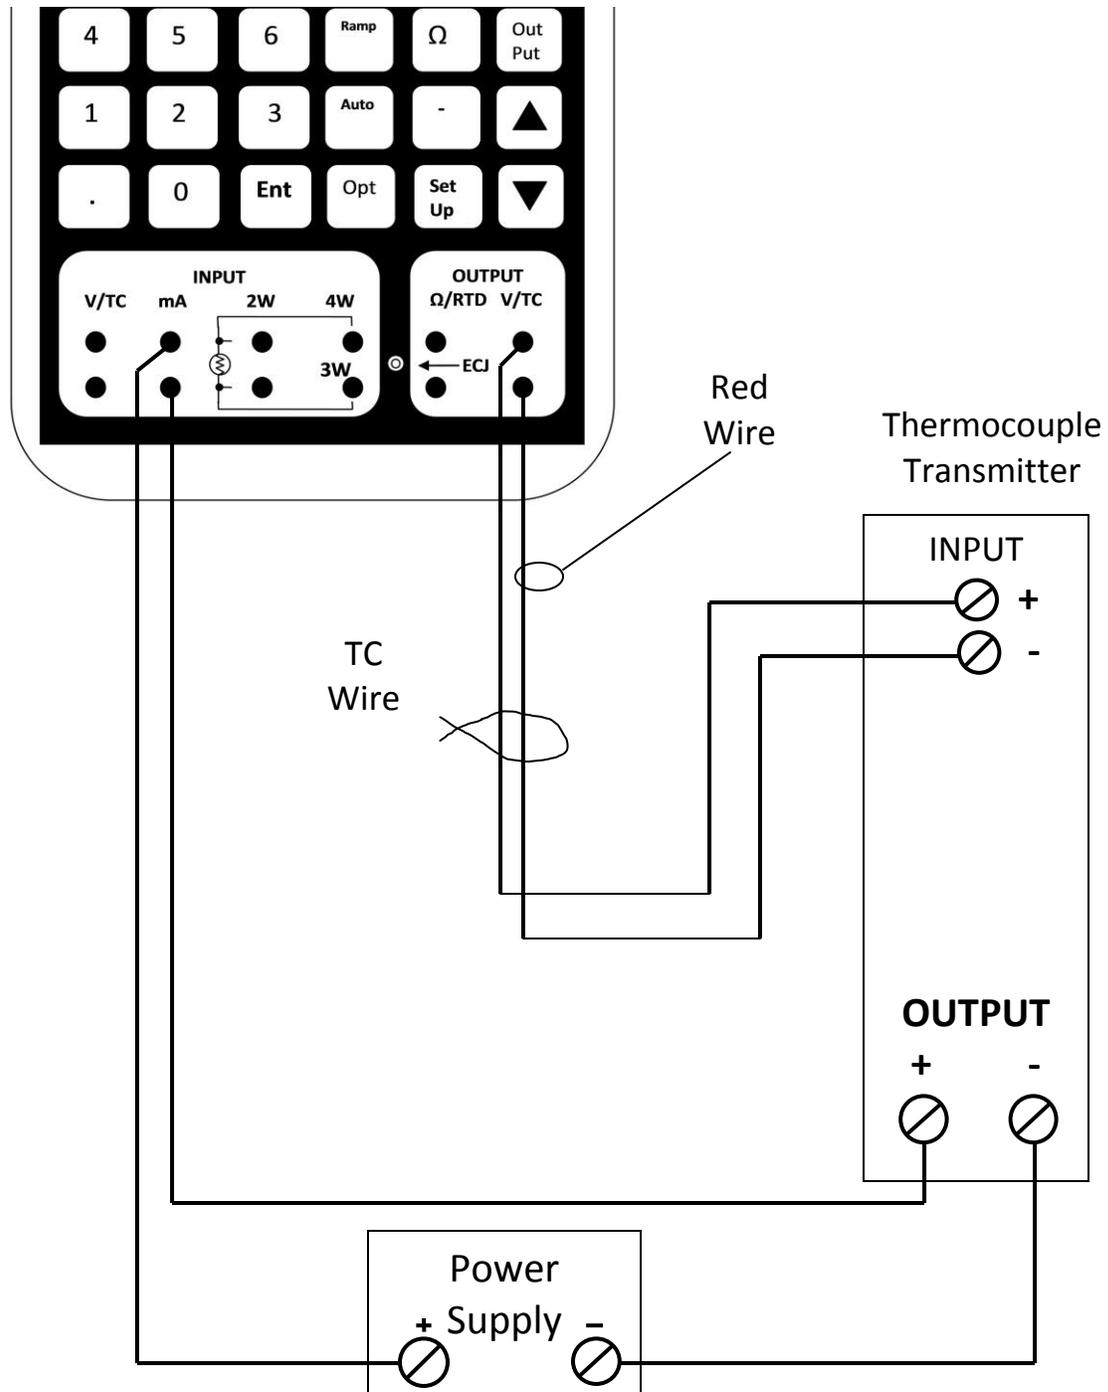

Figure 2
1. Connect the calibrator as shown in Figure 2.